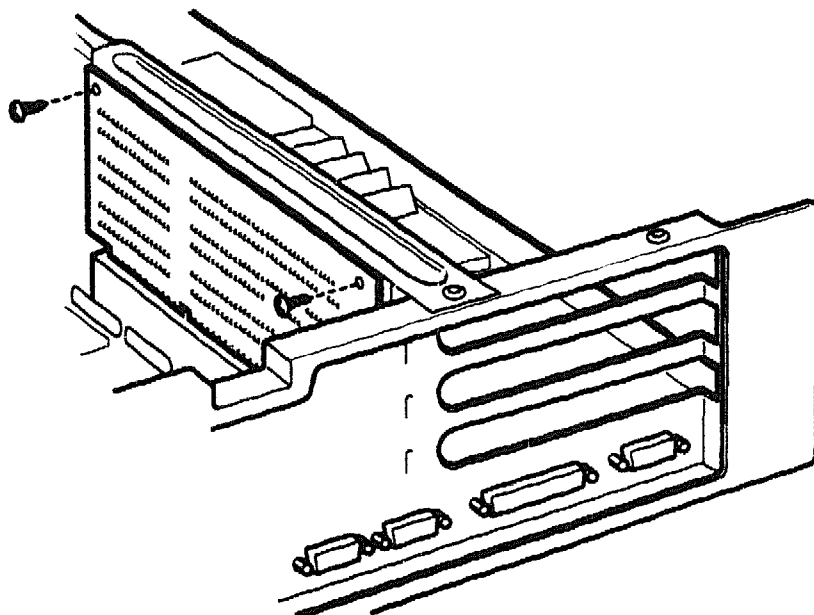

Figure 3-34 - Installing the BUS Expansion Board
4. Plug the BUS Expansion Board into the socket and tighten the two securing screws (Figure 3-34).